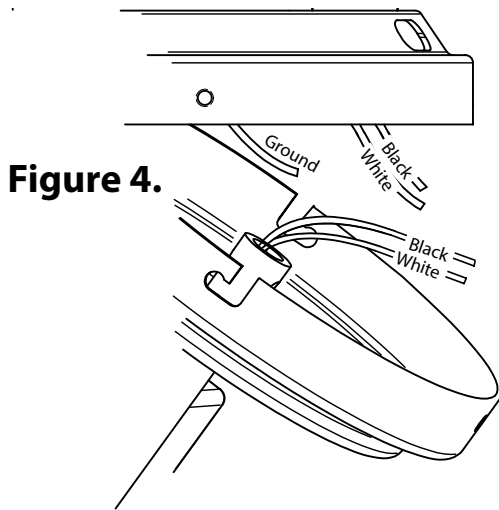

Figure 4.
- a. Connect the fan neutral wire (black) to the black household supply wire as shown in Figure 4.
- b. Connect the phase supply (red) to the red household supply as shown in Figure 4.
- c. Connect the Ground fan wire (Green & yellow) to the ground household supply as shown in figure 4. Red = Phase. Black = Neutral. Green/yellow = neutral